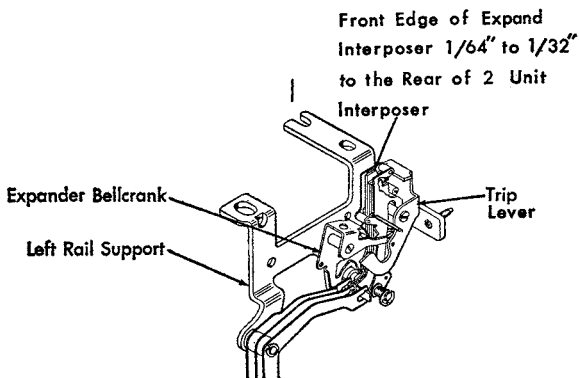

Figure 5. Expander Bellcrank Adjustment
7. EXPANDER BELLCRANK. Adjust this by moving its pivot stud front or rear. Position this stud so that the front edge of the expand interposer, when in the expand position, is $\frac{1}{64}$ " to $\frac{1}{32}$ " to the rear of the front edge of the 2-unit interposer (Figure 5).